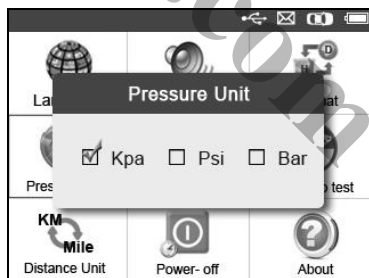

Figure 3.6
- 2) From **Pressure Unit** screen, use the **LEFT/RIGHT** scroll button to select the desired unit: **Kpa**, **Psi** or **Bar**. (Figure 3.6)